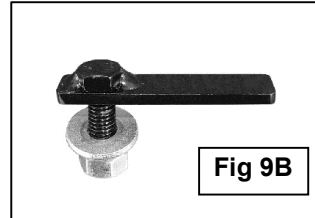
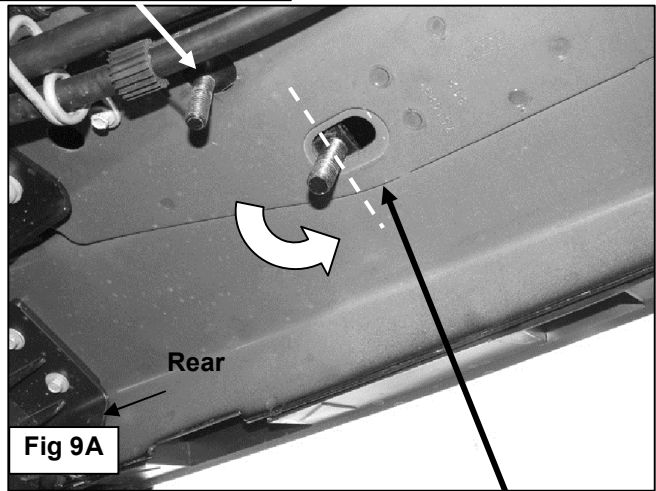
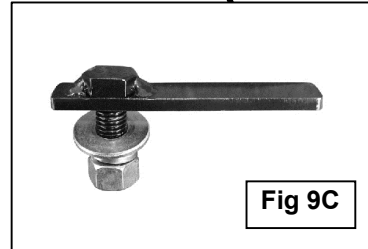

Fig 9B
Fig 9A
Fig 9C
7. Move toward the rear location. Locate the oval and round holes in the floor panel toward the rear of the vehicle, **(Figure 9A)**. Insert (1) 10mm x 35mm Bolt Plate into the round hole, **(Figure 9B)**. Insert (1) 12mm x 40mm Long Bolt Plate into the oval hole next to the pinch weld, **(Figure 9C)**. Rotate the 12mm Bolt Plate 90-degrees so that the plate is across the oval hole.